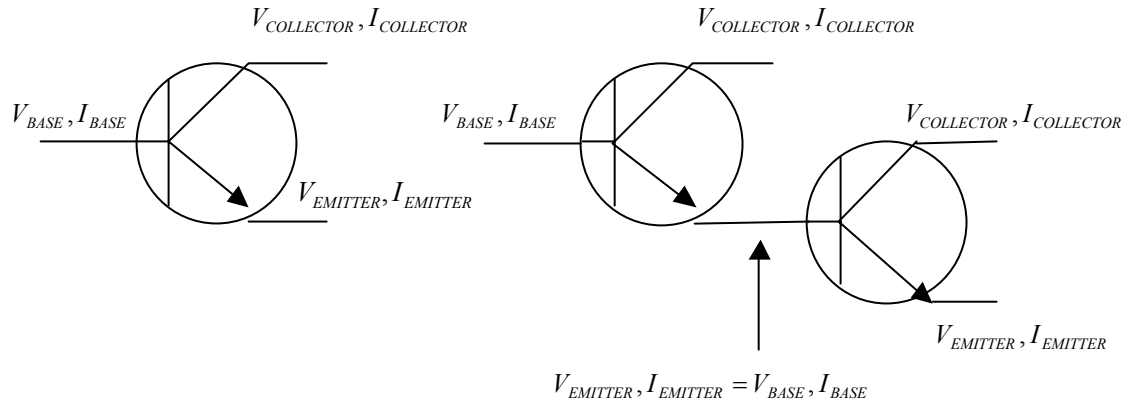

Figure 1 (a) Basic layout for a transistor; (b) Basic layout for a Darlington-pair transistor.
Most commonly, a transistor is used as an amplifier or a gate. As an amplifier, the transistor can be used to amplify a signal in four modes: as a voltage-controlled voltage amplifier, as a voltage-controlled current amplifier, as a current-controlled voltage amplifier, and as a current-controlled current amplifier. Transistors are composed of three functional terminals -- the base (B), the collector (C), and the emitter (E), as shown in Figure 1(a). Ultimately, the current flowing through a transistor depends upon the base current and the resulting voltage. The TIP 120 transistor that we use in the lab (Figure 1(b)) is a combination of two transistors, which form a configuration known as a *Darlington-pair*. Figure 1(b) shows how the emitter voltage from the first transistor is the base voltage of the second transistor, making the Darlington-pair transistor a more effective linear amplifier.